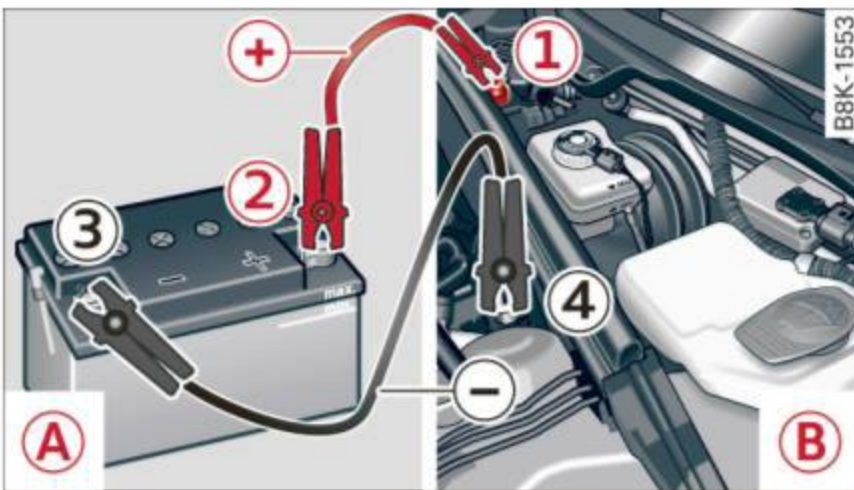

Fig. 187 Jump starting with the battery of another vehicle: (A) booster battery, (B) discharged vehicle battery
1. Connect one end of the red positive cable on the **jump start bolt** ⇒ fig. 187 (1) (Bolts under cover = “positive”) of the vehicle to be started (B).
2. Connect the other end to the positive terminal (2) of the booster battery (A).
- Please note that the procedure for connecting a jumper cable as described above applies specifically to the case of your vehicle being jump started. When you are giving a jump start to another vehicle, do *not* connect the negative (–) cable to the negative (–) terminal on the discharged battery  ⇒ fig. 187. Instead, securely connect the negative (–) cable to either a solid metal component that is firmly bolted to the engine block or to the engine block itself. If the battery that is being charged does not vent to the outside, escaping battery gas could ignite and explode!